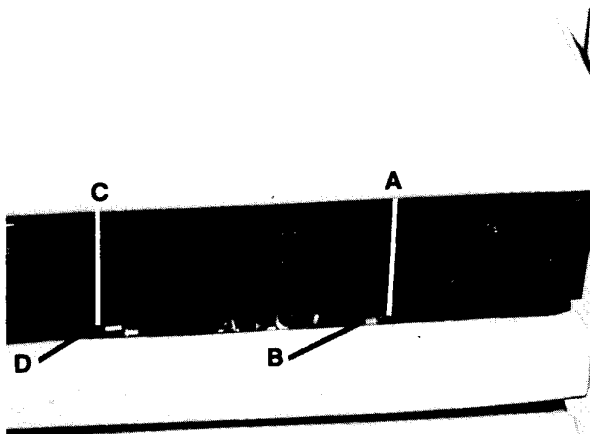

Fig. 3
6. Inspect the seat pivots, Item A, Fig. 3. The pivot bolt, Item B, Fig. 3 should not turn as the seat rotates. Also, the seat section should be centered between the pivots with equal spacing, Pt. C, Fig. 3 at each pivot.
- a. remove the jam nut, Item D, Fig. 3 with a 3/4" wrench.
- b. remove the pivot bolt, Item B, Fig. 3 with a 5/16" allen wrench.
- c. apply Loctite #271 to the threads of the pivot bolt and replace the bolt in the pivot, making sure the seat is centered between the pivots with equidistant spacing, Pt. C, Fig. 3 at each pivot.
- e. replace the jam nut, Item D, Fig. 3 and tighten securely.